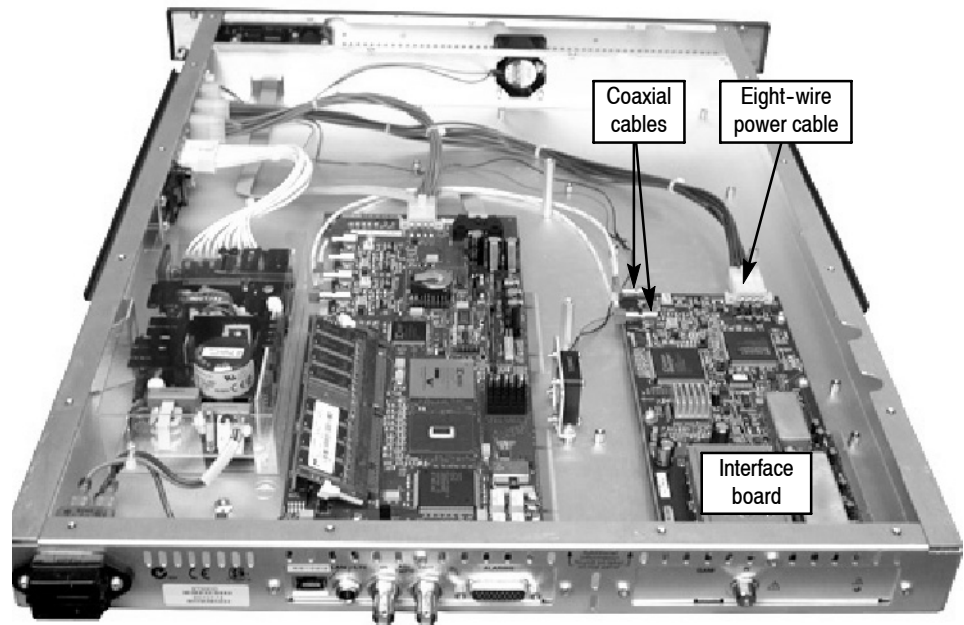
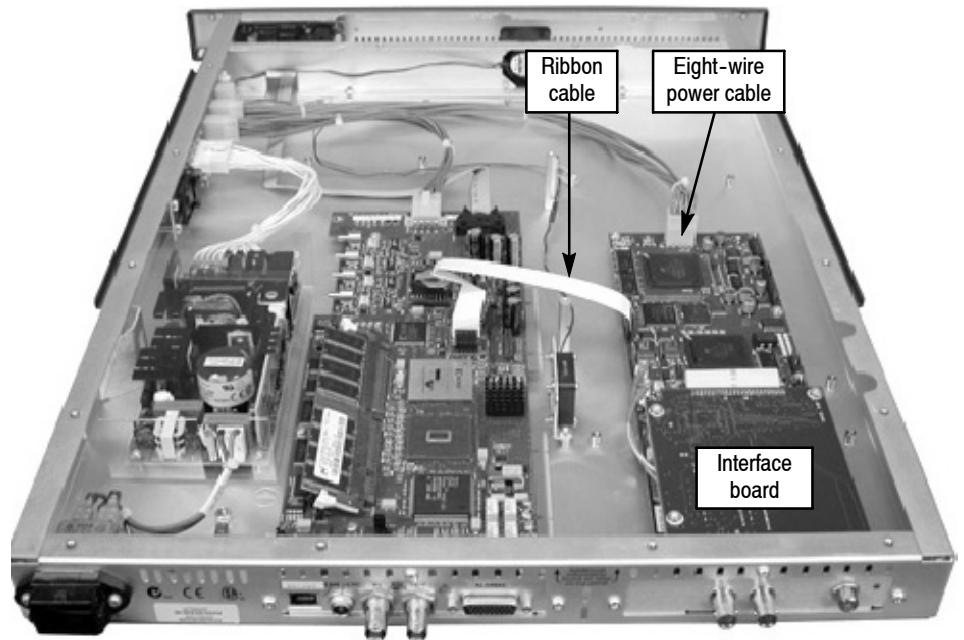

Figure 17: QAM (Annex A), QAM (Annex B, old version), QAM (Annex C), and QPSK (L-Band) interface board location
Figure 18: QAM (Annex B, new version), 8PSK, 8VSB, and COFDM interface board location
3. Locate the interface board in your instrument (see Figure 17 and Figure 18). The interface board is mounted on the right side of the instrument as viewed from the rear.
5. If your instrument has an interface board already installed, use Figure 17 and Figure 18 to determine which type of interface board is installed.
CAUTION. To avoid incorrectly installing the interface board, be sure to follow the removal directions for the type of interface board that is installed in your instrument. There are two types of interface boards as shown in Figure 17 and Figure 18. Each board type has different cable connections.
- a. Disconnect the two coaxial cables from the SMB connectors labeled I/P and O/P (see Figure 17). These are push-fit connectors.
- a. Disconnect the ribbon cable from the connector labeled J14 on the interface board (see Figure 18).
11. Place the new interface board into the right side of the instrument (as viewed from the rear of the instrument). See Figure 17 and Figure 18 on page 24.